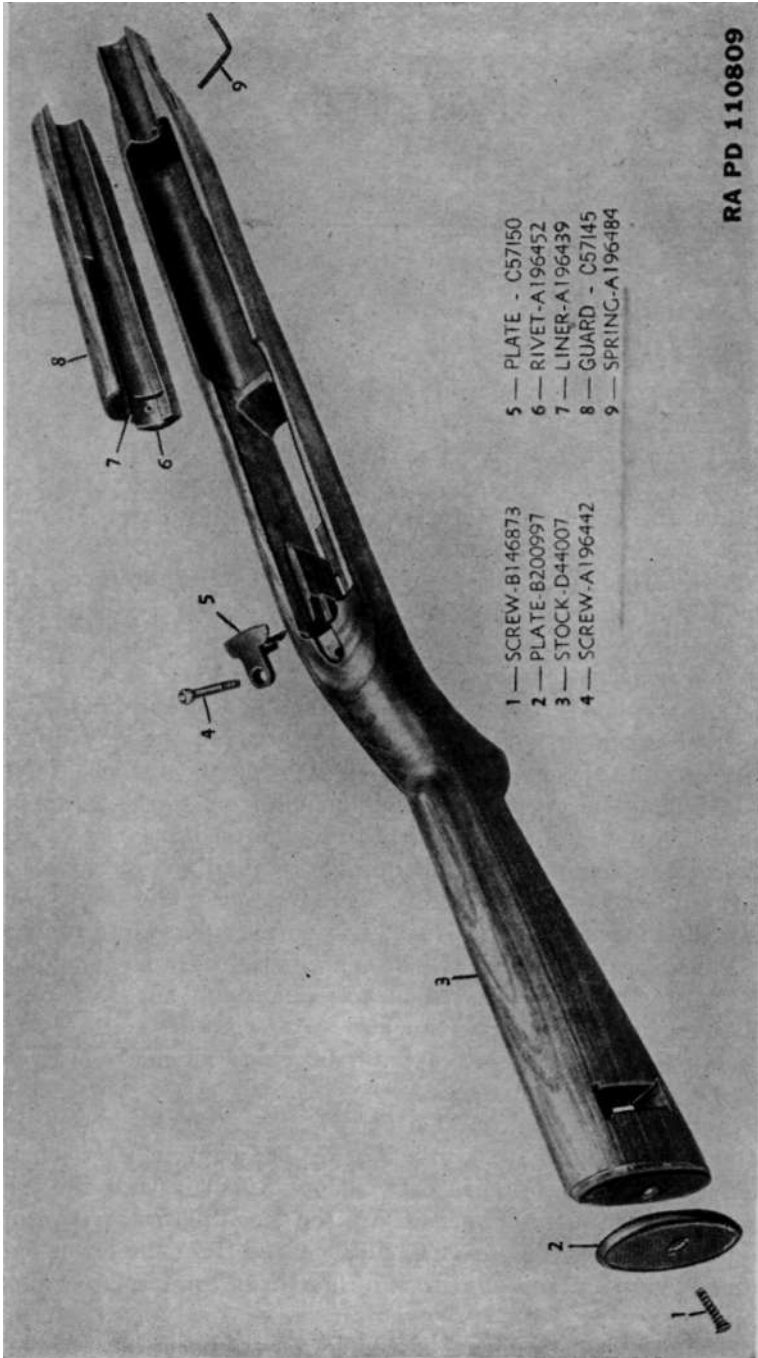
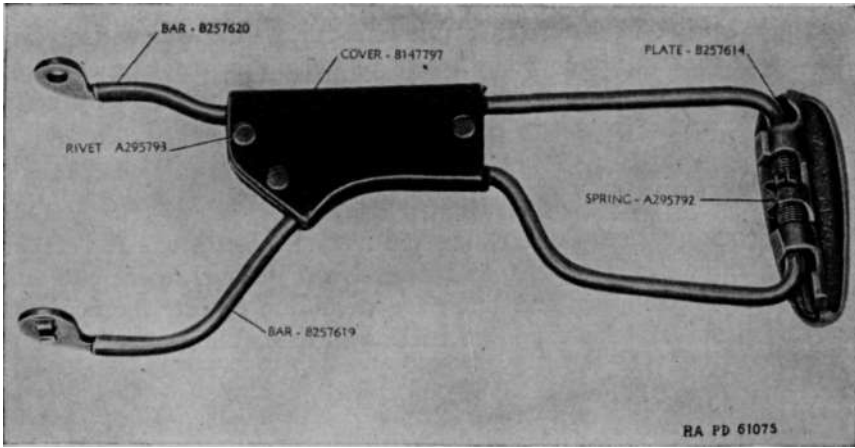
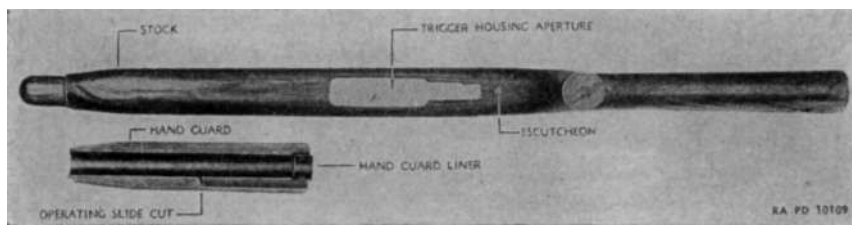

Figure 56. Stock and hand guard.
Figure 57. Stock extension — carbine, cal. .30, M1A1.
Figure 60. Stock and hand guard — carbine, cal. .30, M1.
*a.* FRONT BAND LOCKING SPRING. Insert small, straight punch in spring spindle hole in left side of forward end of stock and drive out front band locking spring part way, from left to right; then rotate spring and pull from hole. (See fig. 56.)
*b.* RECOIL PLATE (M1 AND M2). (1) Unscrew recoil plate screw counterclockwise until clear of escutcheon threads (above  $\frac{3}{4}$  inch), then withdraw from stock and recoil plate.
(2) Loosen recoil plate by tapping lightly on rear top face with a metal tool. Pull plate directly forward out of seating recess in stock. Do not pull up or down, because rear seating lug on plate seats in a horizontal recess cut in the stock.
(3) Do not remove the escutcheon from the stock except for replacement. To remove, thread recoil plate screw all the way into escutcheon from the under side and pull escutcheon out of stock. If withdrawal is difficult, insert small straight punch from top of screw hole in stock and tap end of screw lightly to loosen escutcheon, or thread screw in from top, part way, and tap lightly; then proceed as above.
*e.* STOCK EXTENSION (M1A1) (fig. 57). (1) Remove lower hinge screw from lower end of stock grip by turning counterclockwise.
(2) Inspect butt plate for deformation, burs, fit, and looseness on stock. Check butt plate screw for looseness. Check threads in stock for stripping.
(3) Inspect recoil plate for looseness in stock, for burs, and for excessive wear and rust. (See fig. 56.) Check recoil plate screw for looseness in escutcheon (fig. 60), burs, and worn threads.
(4) Inspect escutcheon for looseness in stock, burs, or worn threads.
(5) Inspect front band locking spring for deformation and excessive wear of locking shoulder. Rear face of shoulder should be square enough to retain front band in position. (See fig. 56.)